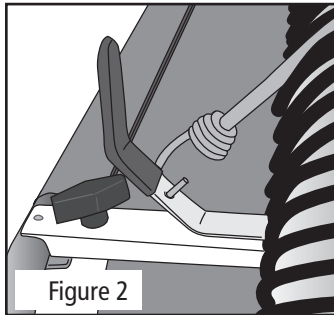

Figure 2
- For added security, attach the shock cords as shown in Figure 2 and 3.